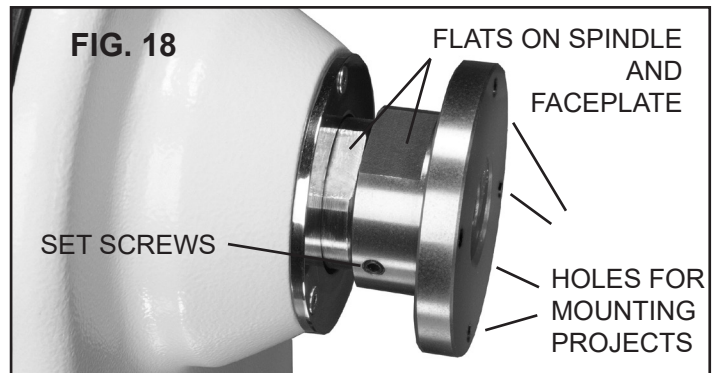

FIG. 19
*To REMOVE the faceplate*, first loosen the set screws. The spindle and rear hub of the faceplate each have flats that are for use with open end wrenches. FIG. 19. Next, use the 2 extra large, double ended wrenches (N) (38mm/46mm) for holding the spindle and also to hold the back hub of the faceplate for removal of the faceplate. Or use one wrench while pushing in the Spindle Lock Button. Use the same process for removing a chuck.